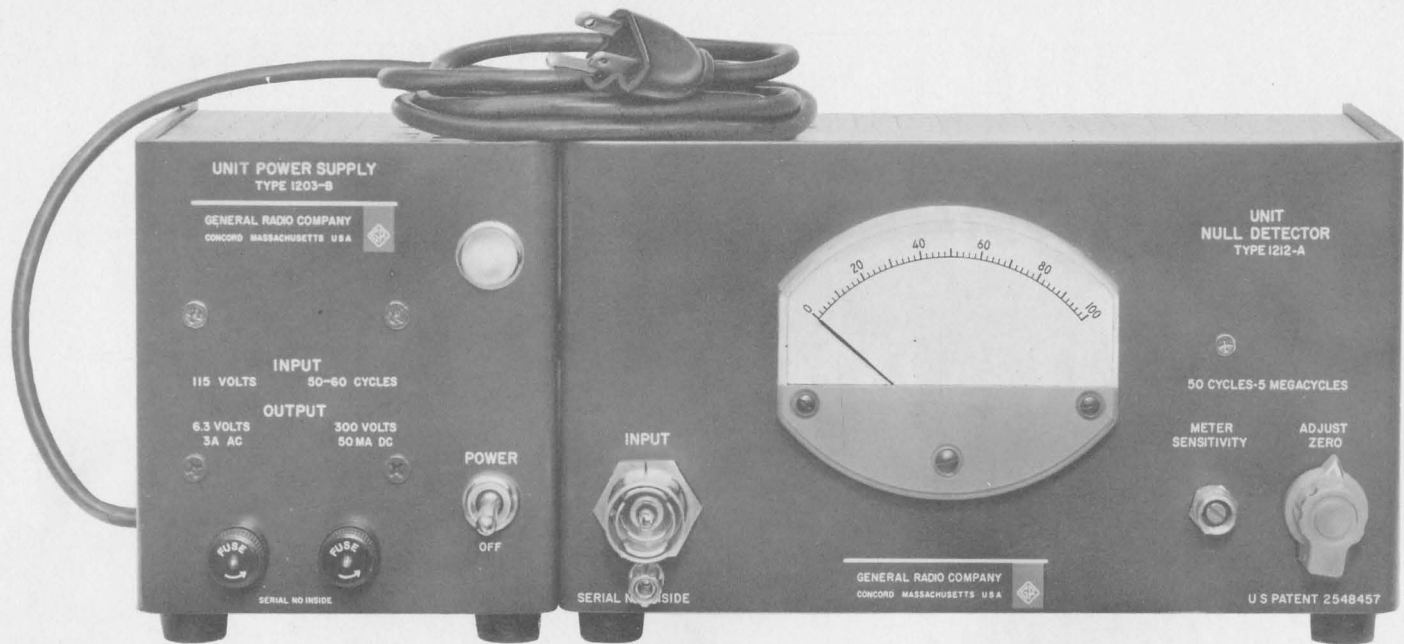

Figure 1. Type 1212-A Unit Null Detector with Type 1203-B Unit Power Supply.
1.1 PURPOSE. The Type 1212-A Unit Null Detector (Figure 1) is a logarithmic amplifier used primarily as a balance indicator for ac bridge measurements from 50 cps to 5 megacycles. With suitable input filters, the Unit Null Detector can be used with the Type 716-C Capacitance Bridge, Type 1661-A Vacuum-Tube Bridge, Type 916-AL R-F Bridge, Type 716-CS1 Capacitance Bridge, and up to 5 Mc with the Type 1606-A R-F Bridge. Frequency coverage can be extended to 60 Mc and sensitivity substantially improved by the use of the Type 1212-P3 RF Mixer ahead of the null detector. In addition, the mixer permits use of the Type 1212-A with the Type 1602-B Admittance Meter and Type 1607-A Transfer Function and Imittance Bridge.